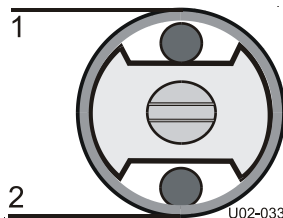

Figure 15: Auto-grip shaft position.
- c. Insert the shaft into the core cylinder of the film roll, holding the auto-grip shaft as in figure 15.
- d. Place the shaft and film back into the shaft holders (see figure 15).